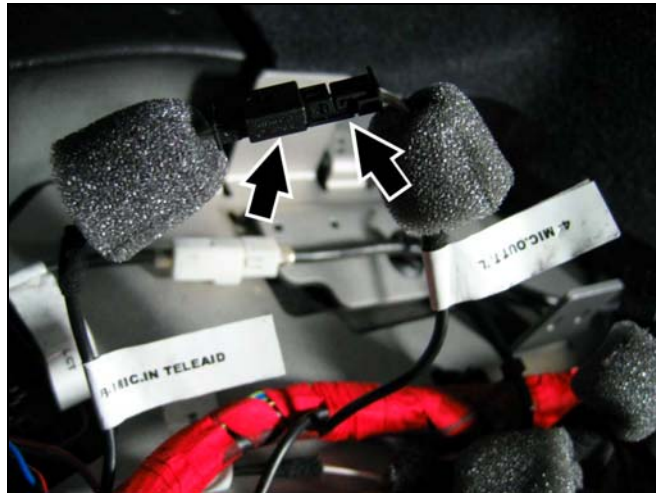

Figure 27
1. At the right side of the exposed electronics compartment at the front of the trunk, locate the connectors for the microphone array cables (Figures 27 and 28).
3. Connect the 2-pin female connector labeled "4 - MIC.OUT TEL" to the 2-pin male connector labeled "8 - MIC.IN TELEAID" (Arrows, Figure 27).